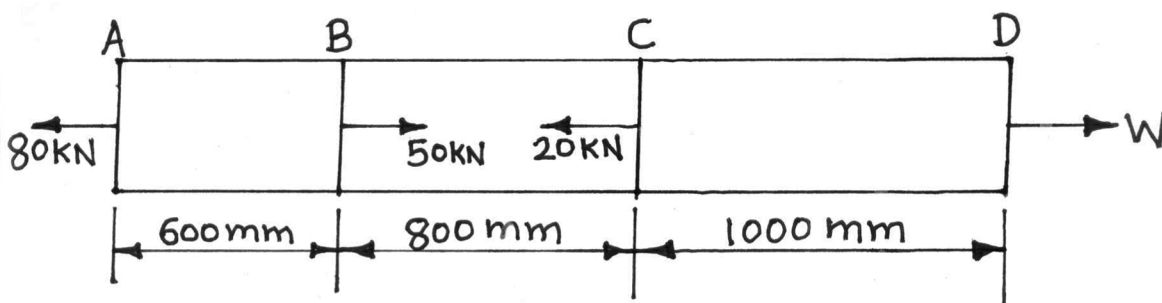

Figure No. 4.
- a) A steel bar ABCD having 100 mm^2 cross sectional area is loaded axially as shown in Figure No. 4. Find the unknown force 'W' and deformation of bar. Take $E = 200 \text{ GPa}$.